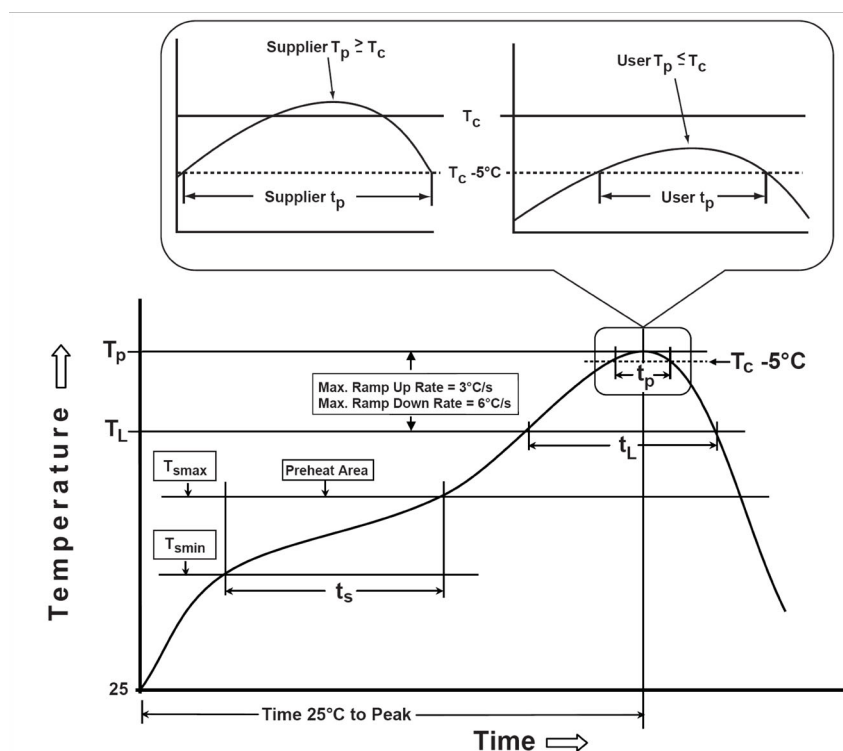

Figure 12. Peak Reflow Profile
- See Table 1 and Figure 12.
Time ( $t_P$ ) within 5°C of the specified classification temperature ( $T_C$ ); see Figure 12	30 seconds max.